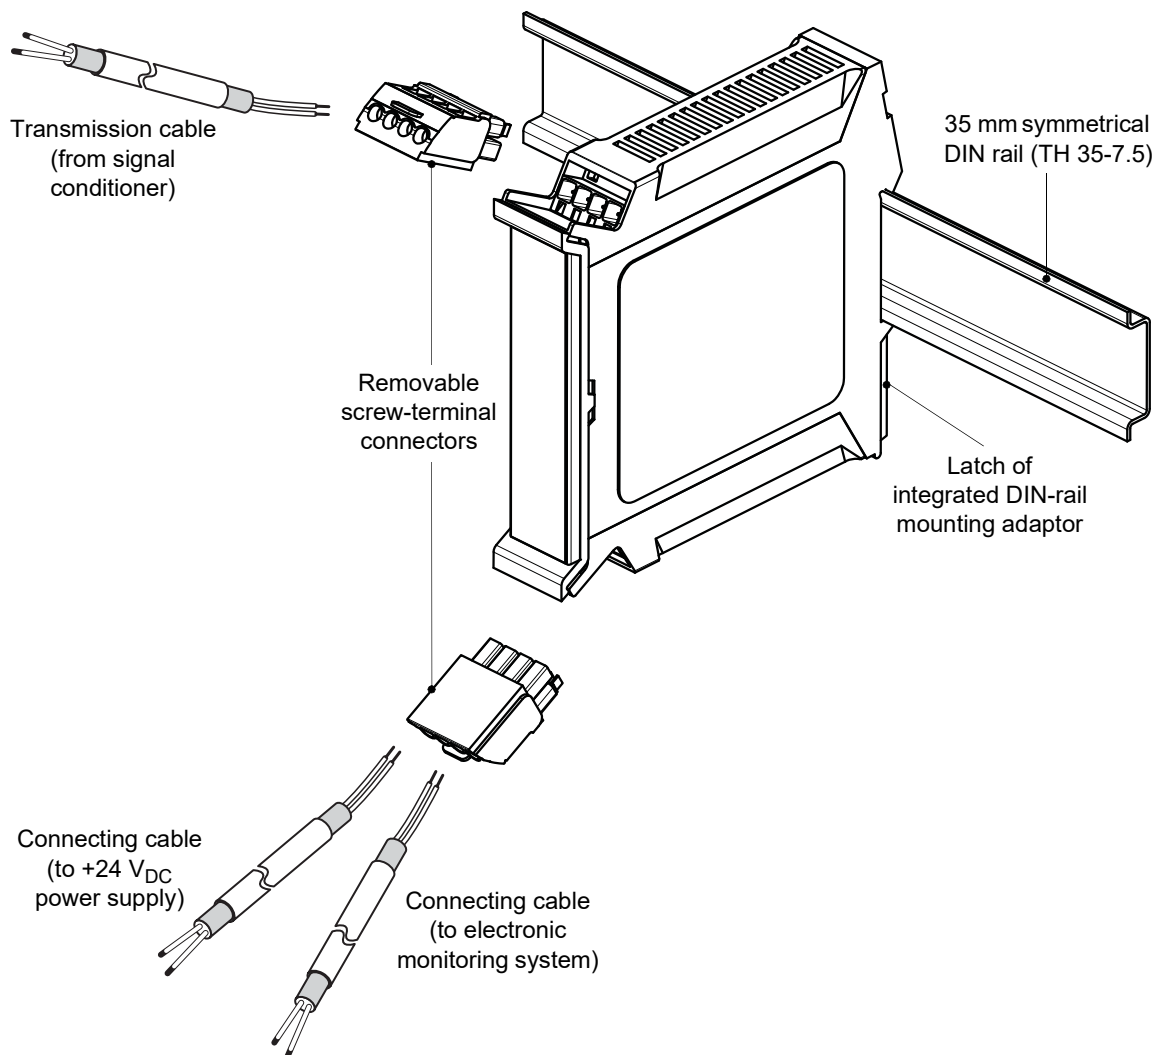
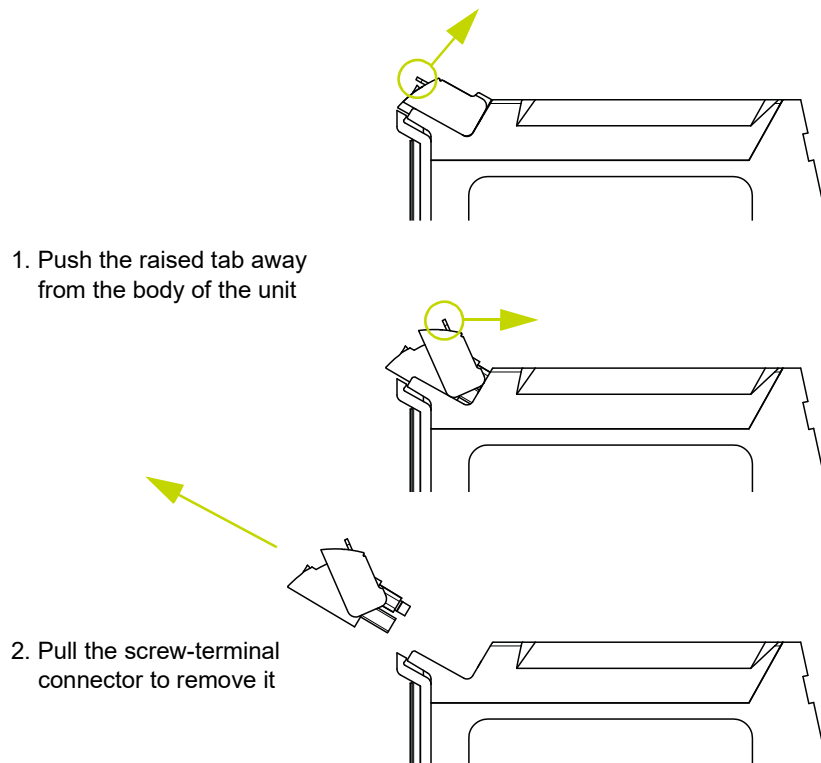

Figure 5-1: A GSI127 galvanic separation unit on a DIN rail (shown with connections for 2-wire current transmission)
Figure 5-2: Removing a screw-terminal connector from the main body of a GSI127 unit
A GSI127 galvanic separation unit should be installed vertically on a 35 mm wide symmetrical DIN rail such as a TH 35-7.5 (see Figure 5-1) and is generally mounted in an industrial housing, rack or cabinet.
NOTE: A GSI127 galvanic separation unit should be installed vertically on the DIN rail, as this orientation maximises the air flow available to cool devices. As shown in Figure 5-1, a GSI127 is typically installed right-side-up (with the mounting adaptor latch at the bottom of the unit), but it can equally be installed upside-down (inverted, with the mounting adaptor latch at the top of the unit) for ease of installation and wiring.
- 1- Push the raised tab on the front of the screw-terminal connector (which acts as a lever) away from the main body of the unit to overcome the retaining force and separate the screw-terminal connector and the unit (see Figure 5-2). Use enough force to separate the connector from the body of the unit by approximately 5 mm.
The transmission cable from the proximity measurement chain's sensor-side circuitry (IQS900 signal conditioner) and the connecting cable to the monitor-side circuitry are connected to the GSI127 galvanic separation unit using removable screw-terminal connectors (see Figure 5-1 and Figure 5-2).